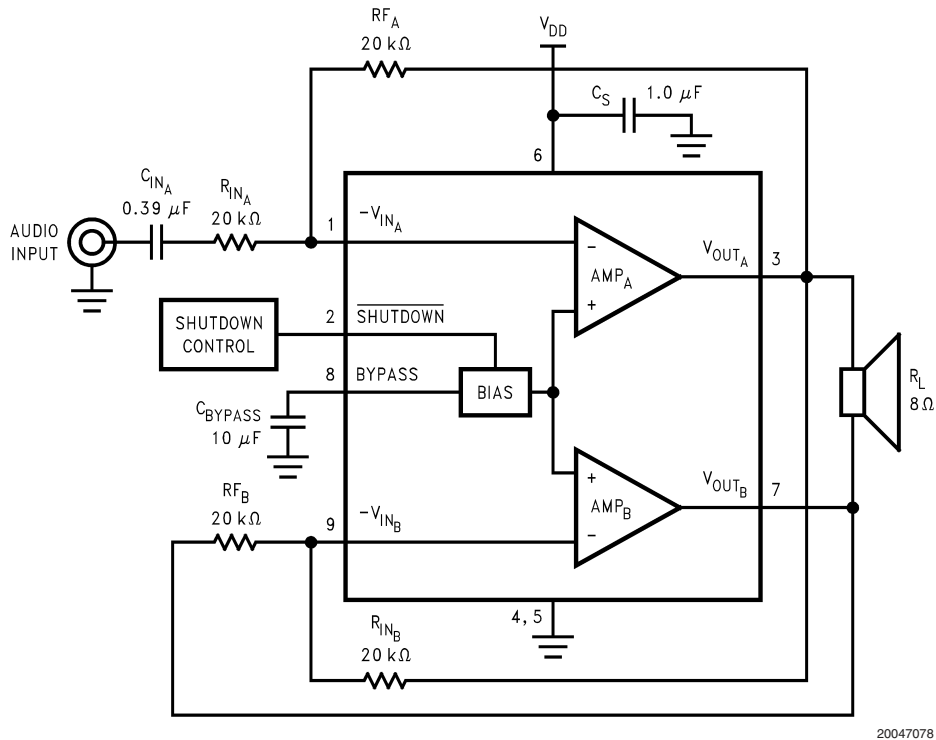

FIGURE 3. Typical LM4950 BTL Application Circuit
As shown in *Figure 3*, the LM4950 consists of two operational amplifiers that drive a speaker connected between their outputs. The value of external input and feedback resistors determine the gain of each amplifier. Resistors  $R_{IN_A}$  and  $R_{F_A}$  set the closed-loop gain of  $AMP_A$ , whereas two 20kΩ resistors set  $AMP_B$ 's gain to -1. The LM4950 drives a load, such as a speaker, connected between the two amplifier outputs,  $V_{OUT_A}$  and  $V_{OUT_B}$ . *Figure 3* shows that  $AMP_A$ 's output serves as  $AMP_B$ 's input. This results in both amplifiers producing signals identical in magnitude, but 180° out of phase. Taking advantage of this phase difference, a load is placed between  $AMP_A$  and  $AMP_B$  and driven differentially (commonly referred to as "bridge mode"). This results in a differential, or BTL, gain of
As shown in Figure 3, the input resistor ( $R_{IN}$ ) and the input capacitor ( $C_{IN}$ ) produce a high pass filter cutoff frequency that is found using Equation (7).
As an example when using a speaker with a low frequency limit of 50Hz,  $C_i$ , using Equation (7) is 0.159 $\mu$ F. The 0.39 $\mu$ F  $C_{INA}$  shown in Figure 3 allows the LM4950 to drive high efficiency, full range speaker whose response extends below 30Hz.